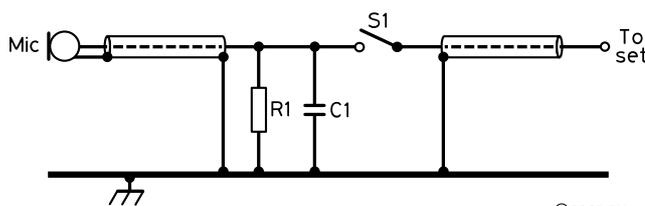

Fig 4: Wiring diagram for handheld radios.
Most handheld sets use a single screened lead for both the PTT line and the microphone audio lead. The diagram of the wiring for a handheld in **Fig 4** shows that the microphone is connected via screened cable to a resistor R1 and capacitor C1 and then the press-to-talk switch S1 to the set.
If you find that the set will not transmit when the PTT switch is pressed reduce the value of R1 to 27k Ω . The value of R1 in **Fig 4** is suitable for the Icom, Rexon and ADI Kenpro transceivers that it was tried with, but may have to be reduced for Yaesu sets.
- R1 (Fig 4) 33k Ω 0.25 Watt Carbon
- C1 (Fig 4) 0.1 μ F Ceramic Disc Capacitor